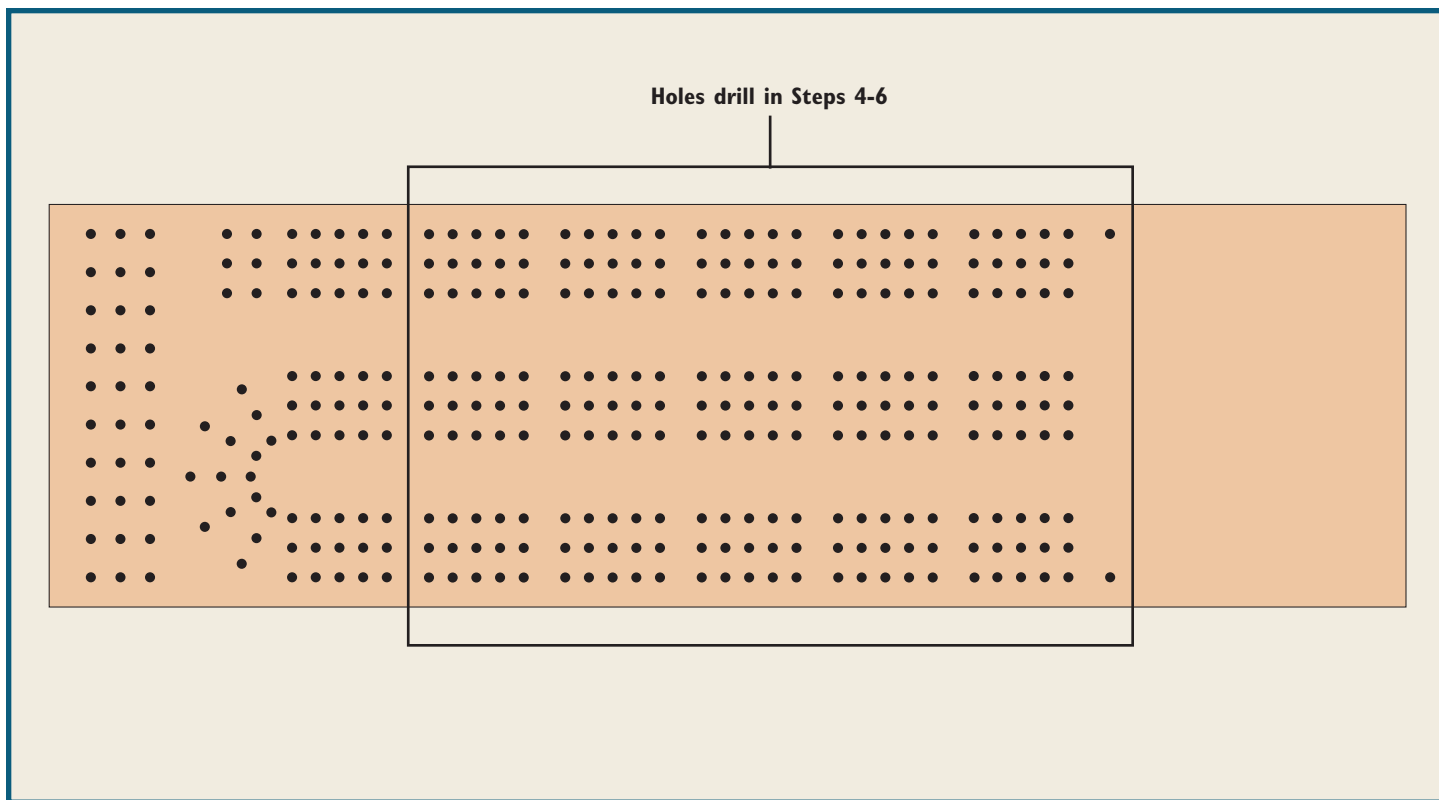

Fig. 5
7. Remove the Square Template and check that your board looks like the one shown in **Fig. 5**.